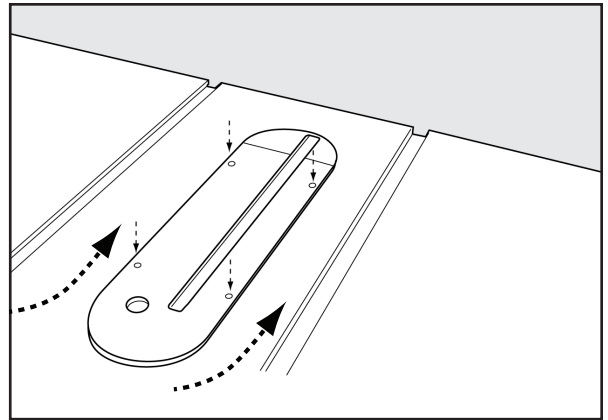

FIGURE 15A
1. To install throat plate, lower blade below tabletop, then carefully feed the throat plate, with plate end first, from the front of the table to the rear, keeping the blade centered within the slot on the throat plate. See Figure 15A. The plate should rest within the cavity in the tabletop on top of 5 flat head screws.